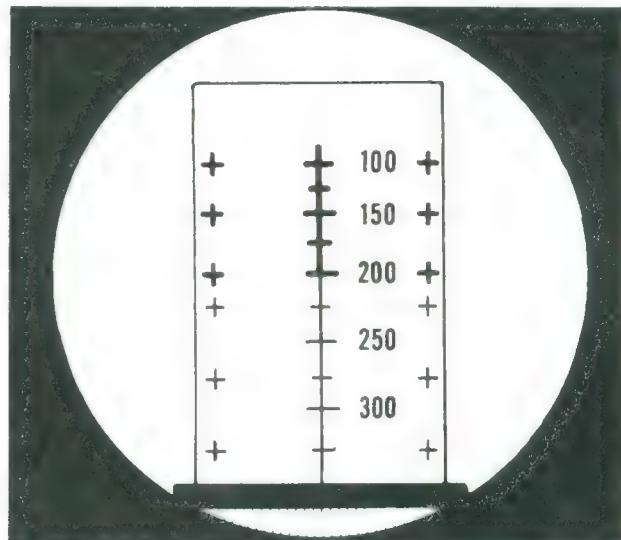

Figure 13. M72 sight reticle.
b. *Reticle Pattern.* The M72 sight reticle has a vertical center range line that is graduated in 25-meter increments (range segments) from 100 to 325 meters. On each side of the range line at ranges of 100, 150, 200, 225, 275, and 325 are lead index marks representing 15 miles per hour of target speed (fig. 13).